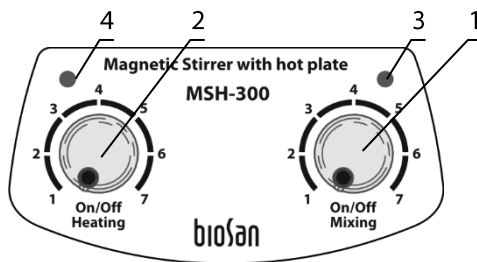

Figure 2. Control panel
- 5.3. Plate temperature control. Using the **Heating** knob (fig. 2/2), switch the heating **on** and set the required temperature, linearly, in the 30 to 330°C range. Heating indicator (fig. 2/4) lights up when heating, and starts flashing, 4 times per second, when the unit reaches the set temperature.
- 5.4. Using the **Mixing** knob (fig. 2/1), switch the mixing mode **on** and set the required speed. Increase the speed smoothly.